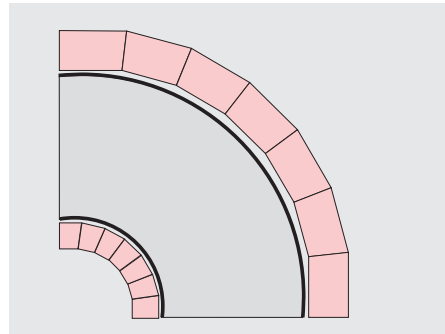

Figure 12: Preferred (insulation v-grooved)
- The use of pre-slotted or V-grooved insulation is preferred because it allows the required thickness of insulation to be maintained all across the curve as shown in Figure 12.